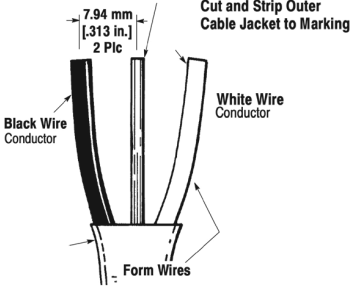

Figure 2
2. Align wires with markings on the housing. Place the wires on the contacts. Do not push the wires into slots. Wire ends must extend .250 in. (6.35mm) min. (Fig.2)